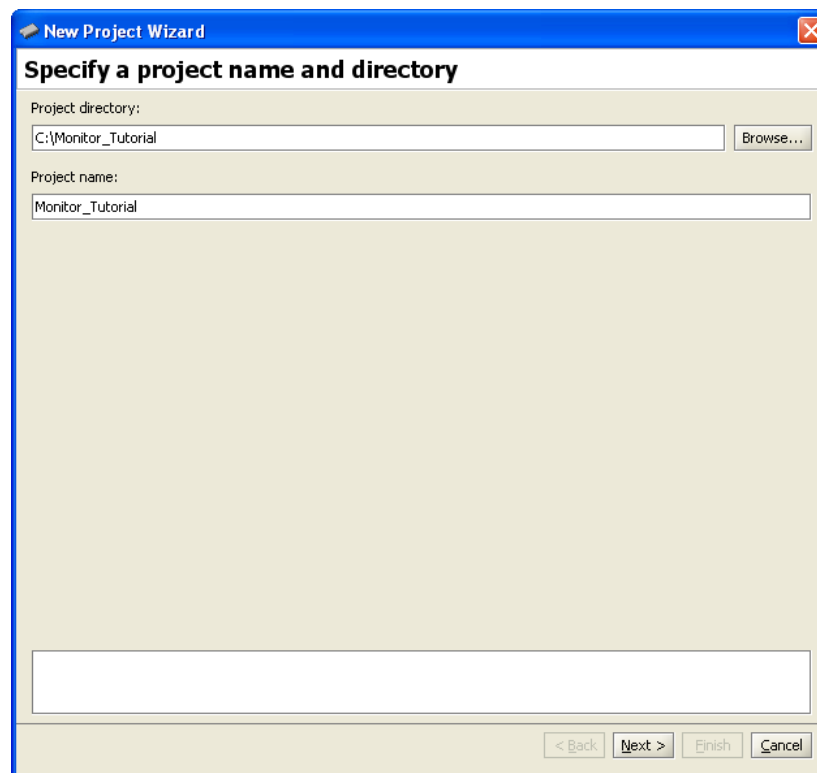

Figure 6. Specifying the project directory and name.
1. Select **File > New Project** to open the *New Project Wizard*, as illustrated in Figure 6. This Wizard presents a sequence of screens for defining a new project. Each screen includes a number of dialogs, as well as a
In Figure 6 we have specified the file system directory *C:\Monitor_Tutorial* and the project name *Monitor_Tutorial*. For simplicity, we have used a project name that matches the directory name, but this is not required.